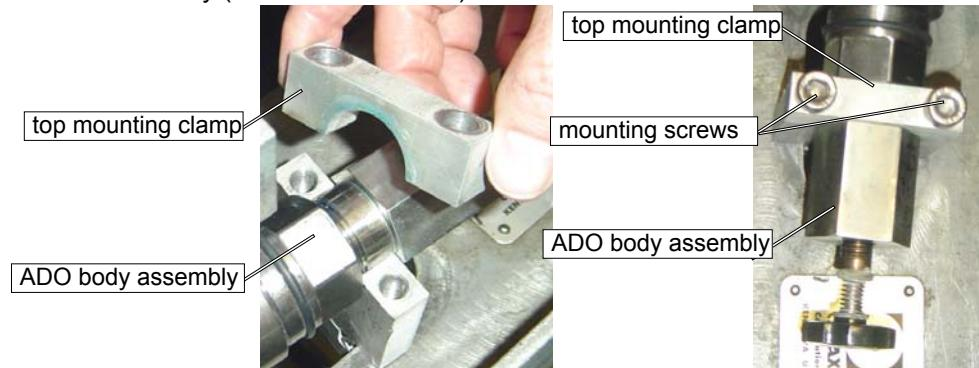

Figure 7-24
- Tighten the two ADO mounting screws (Figure 7-24).